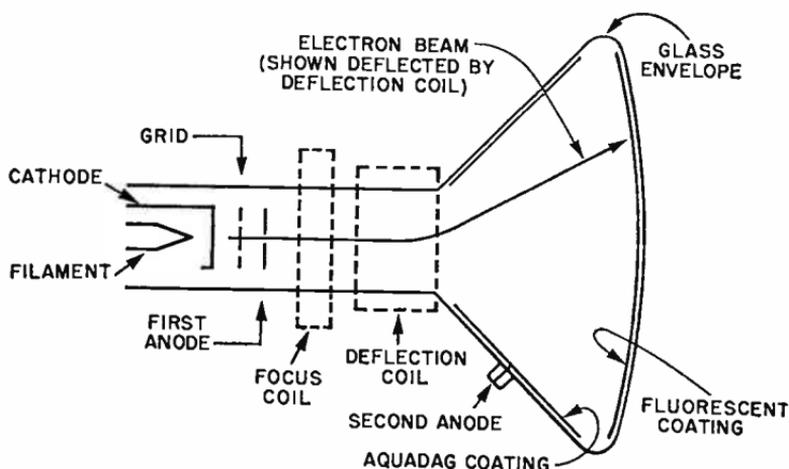

Fig. 8.65. Cross section of a cathode-ray tube.
A. (See figure 8.65.) The purpose of the aquadag coating is to act as an anode of a cathode-ray tube.
D. Aquadag is a graphite solution in water which is applied as a coating to the inside of cathode-ray tubes (as in figure 8.65). It is a good conductor and is employed in radar cathode-ray tubes as a second anode. It also acts as an electrostatic shield to protect the electron beam from stray electric fields.
2. FUNCTION OF ELECTRODES. (See figure 8.65.) The PPI tube has a filament similar to that used in receiving tubes. This filament heats up and, in turn, heats a coated cathode, causing electrons to be emitted from the cathode. These electrons first encounter a grid which functions in a manner similar to the grid in a conventional triode. That is, it controls the amount of electrons passing it and, thus, the *intensity* of the spot produced on the PPI screen. After passing the grid, the electrons (now restricted to a fairly narrow stream), are acted upon by the first anode, which produces some acceleration of the electron stream toward the screen. Further and final acceleration is provided by the second anode (aquadag coating).
D. PPI tubes frequently employ *magnetic* focusing accomplished by a focus coil which is located as indicated in figure 8.65. Deflection is usually accomplished by a magnetic deflection coil which moves the beam radially out from the center to the outer edge of the screen. The rotating effect of the sweep may be accomplished by *rotating* the deflection coil mechanically in synchronism with the antenna. (See Question 8.69.)